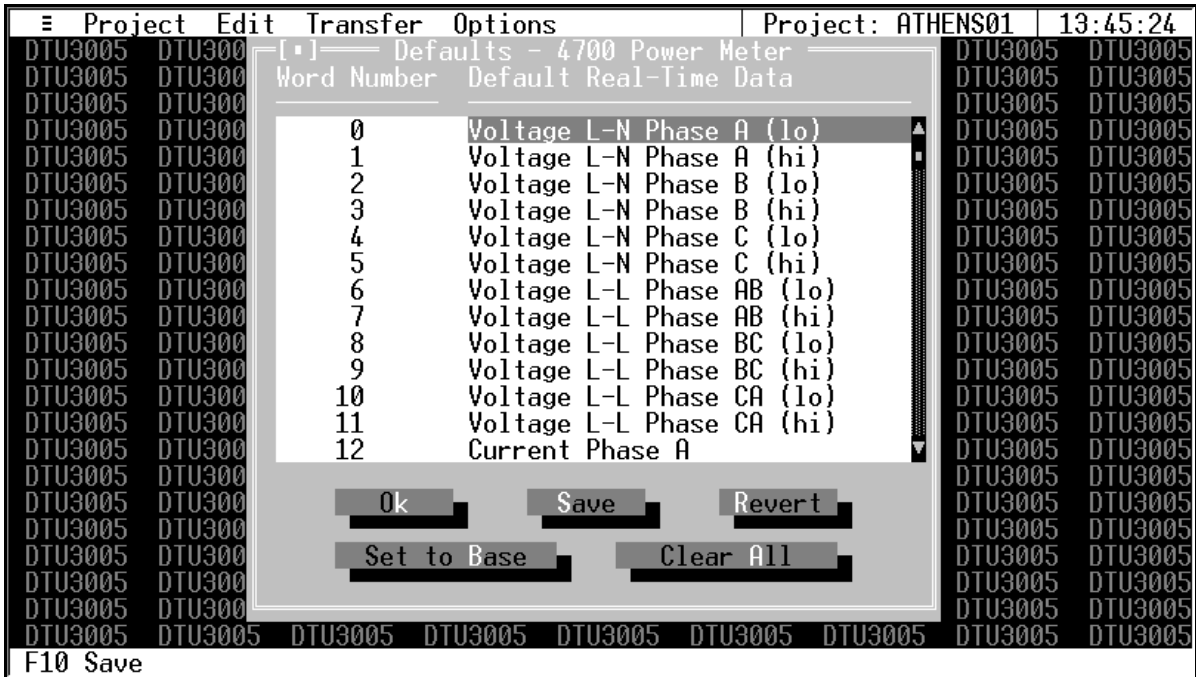

Figure 4.10 Default Custom Data Item Dialog
2. Select the device you want to configure. The default custom register configuration menu is displayed (see **Figure 4.10**). The first time you select this command, the first 16 registers (64 for VDEW devices) from the device's standard data register list display on the default real-time data list. Not all of the entries are visible on the menu. Use the scroll bar or the **Page Up** and **Page Down** keys to view all the entries.